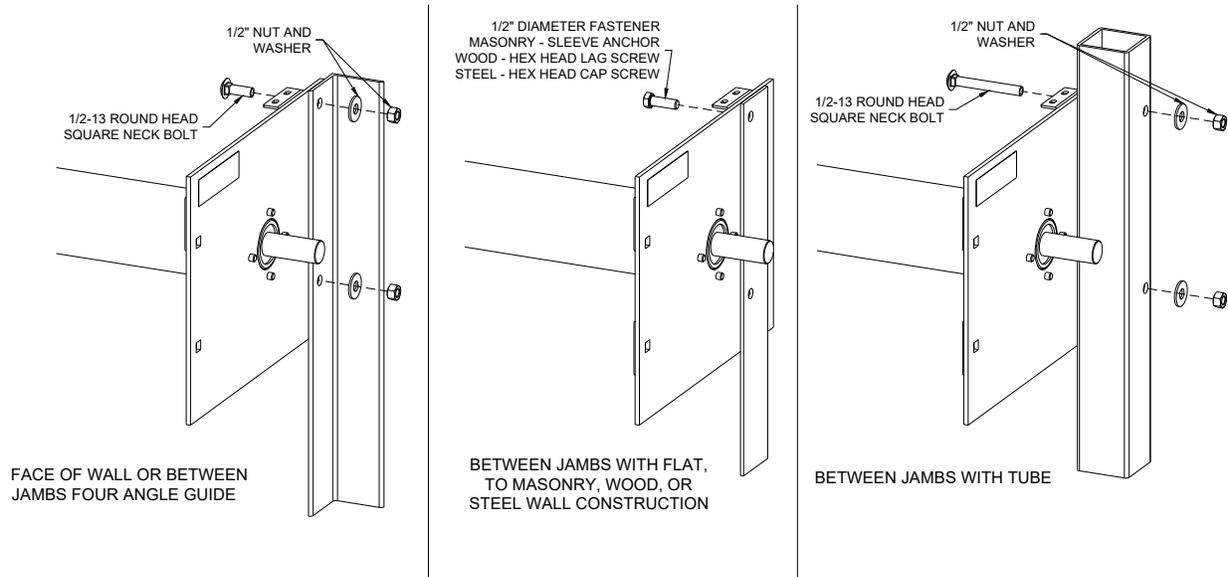

Figure 6.4 – Bracket Mounting Configurations and Hardware
- Insert the specified bolts and snug tighten, see **Figure 6.4**.